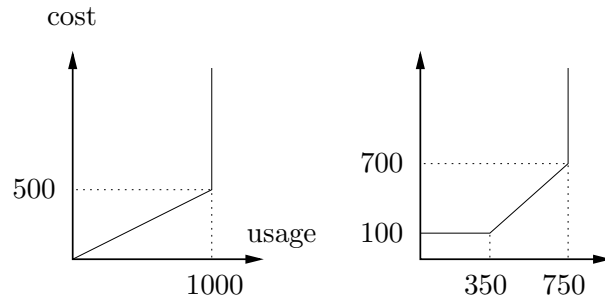

Figure 2 Diagram of the cost of the glue machines relative to their usage. The costs are in kSEK.
- There are 2 gluing machines. The cost of using each machine is shown in Figure 2.